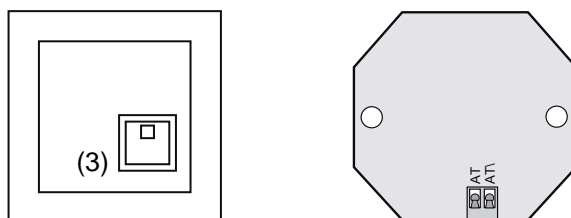

Figure 3: Shut-off push-button cover with frame (left), rear view insert (right)
- On arrival at the emergency scene, press the green shut-off button (Figure 3, 3).